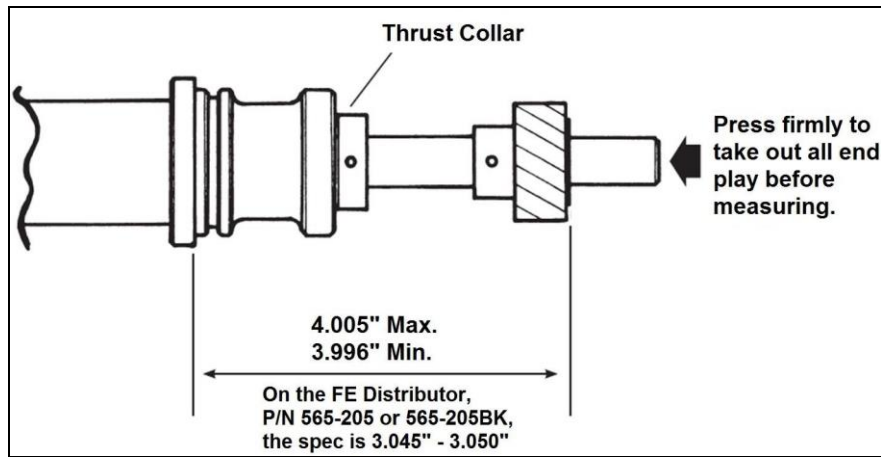

Figure 9 Gear Installation Specifications
1. With the endplay of the distributor shaft removed, measure the distance from the bottom of the gear to the bottom of the mounting flange (**Figure 9**). It should be within the specifications shown.
5. Press the new gear into position on the shaft. Measure the distance as shown in **Figure 9** before drilling the new roll pin hole.